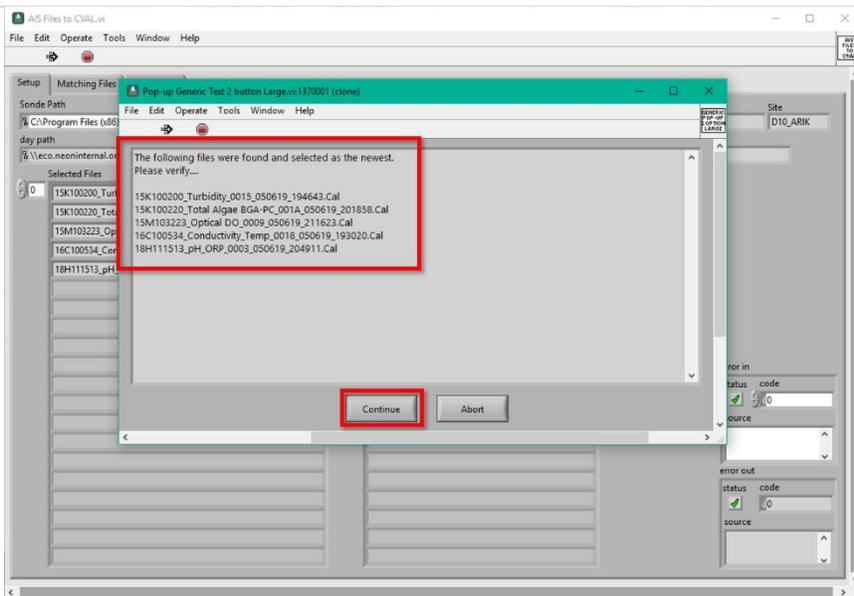

Figure 149. Upload most recent calibration files to CVAL
**STEP 8 |** The application displays a list of files to upload to CVAL (Figure 149). It uploads the most recent files. (If you had to conduct two calibrations on a probe, it will take the most recent calibration file.) If you conducted calibrations from sensors at two different sites, it will show your selection of site files.